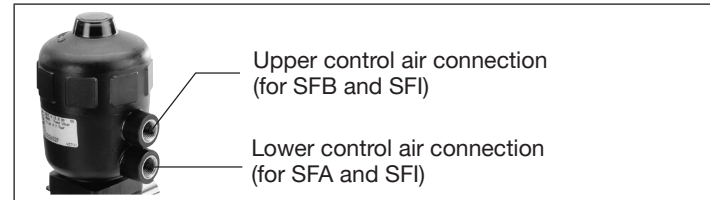

Fig. 5: Control air connection
- Pressurize the lower control air connection with compressed air (value on type label) (see “Fig. 5: Control air connection”). This is required so that the diaphragm detaches from the body and is not damaged.
- Pressurize the lower control air connection with compressed air (value on type label) (see “Fig. 5: Control air connection”).
- Pressurize the upper control air connection with compressed air (value on type label) (see following “Fig. 5: Control air connection”).
(see “Fig. 5: Control air connection”).